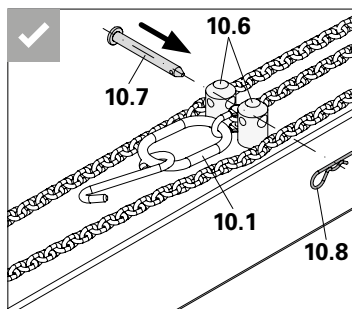

Fig. A3.05
- Ring 1 (10.1) is positioned in front of both spigots. (Fig. A3.05)
7. Insert bolts (10.7) through the holes of both spigots. (Fig. A3.05)
8. Insert the cotter pin (10.8) through the hole in the bolt. (Fig. A3.05)
Is the chain (10.9) positioned between the two spigots (10.6)? (Fig. A3.05)